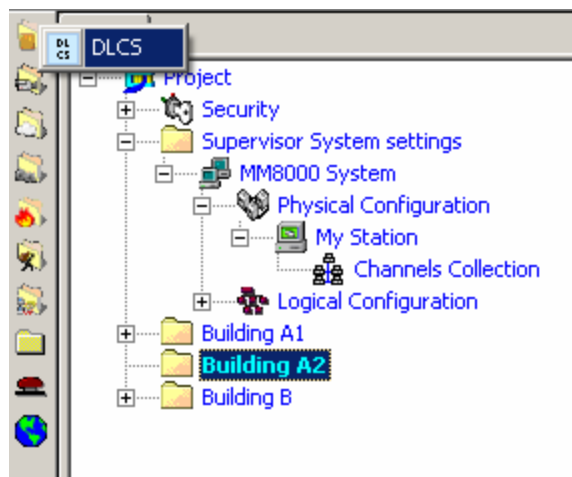

Fig 3 Adding the DLCS node
3. Select the DLCS icon  to add a new DLCS node (see Fig 3).